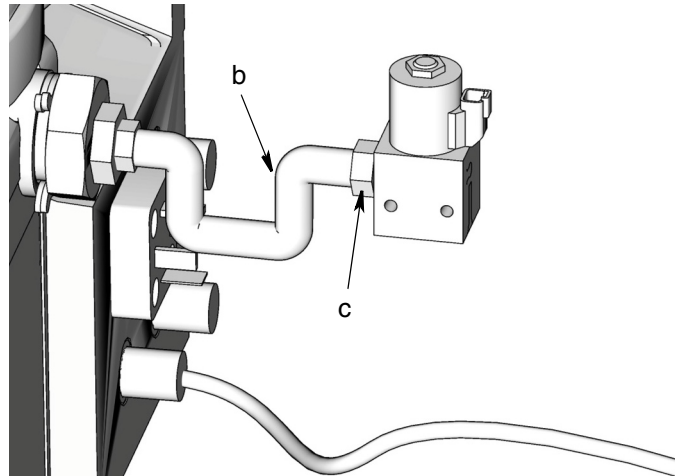

FIG. 2
3. Connect the pressurized supply line (b) to the inlet fitting (c) of the zone valve (marked "I"). Tighten with wrench. (FIG. 2)